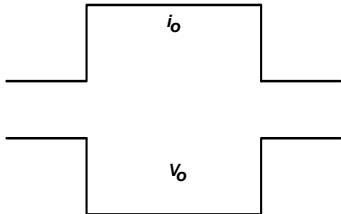
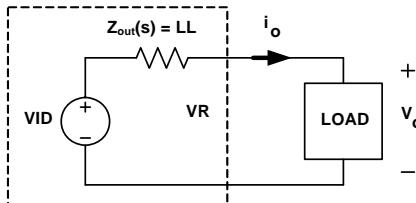

FIGURE 18. DESIRED LOAD TRANSIENT RESPONSE WAVEFORMS
FIGURE 24. VOLTAGE REGULATOR EQUIVALENT CIRCUIT
Assuming the compensator design is correct, Figure 18 shows the expected load transient response waveforms if  $C_n$  is correctly selected. When the load current  $I_{core}$  has a square change, the output voltage  $V_{core}$  also has a square response.
Figure 18 shows the desired load transient response waveforms. Figure 24 shows the equivalent circuit of a voltage regulator (VR) with the droop function. A VR is equivalent to a voltage source ( $= VID$ ) and output impedance  $Z_{\text{out}}(s)$ . If  $Z_{\text{out}}(s)$  is equal to the load line slope  $LL$ , i.e., constant output impedance, in the entire frequency range,  $V_o$  will have square response when  $I_o$  has a square change.